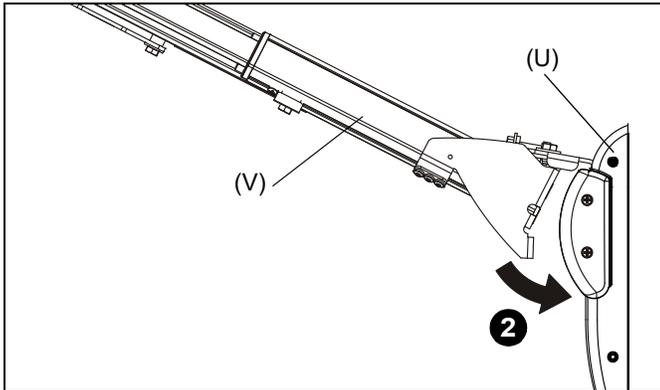

Figure 9
- Slide lower edge onto cross plate of wall bracket. (See Figure 9)